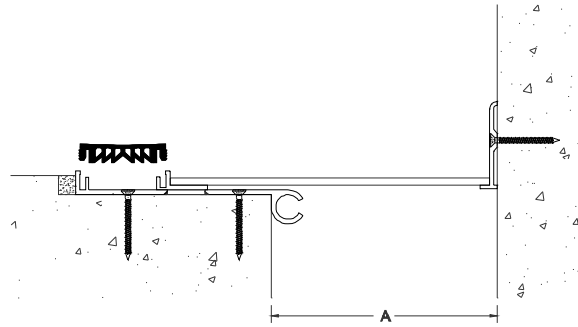

Figure 13
**STEP 16.** Select the elastomeric fillers. Insert each of the elastomeric filler's tabs into the corresponding channel in the base member and in the cover plate (see Figure 13 ). Ensure that each filler's tabs are inserted completely into their corresponding channel.